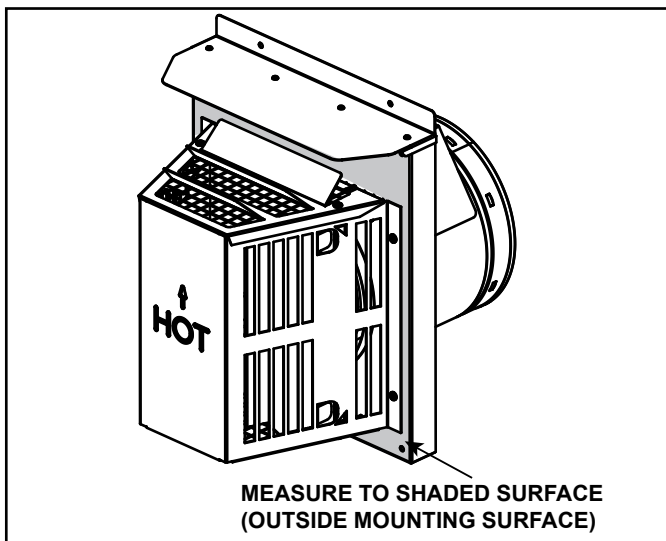

Figure 4.9 Measure to Outside Mounting Surface
- Horizontal terminations are measured to the outside mounting surface (flange of termination cap). See Figure 4.9.